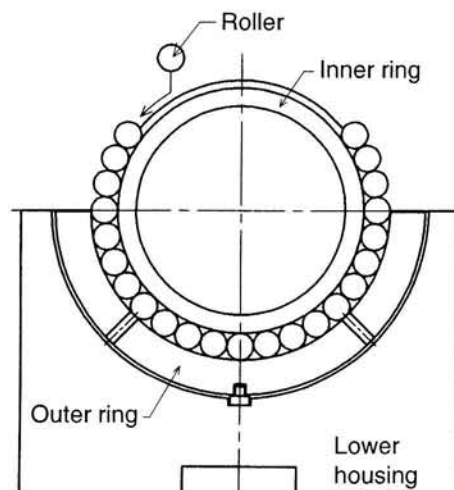

Fig. 20 Placement of Rollers for Upper Half of Bearing
- 4) As the next step, pile up the remaining rollers for the upper half of the bearing on the raceway surface of the inner ring (see Fig. 20).